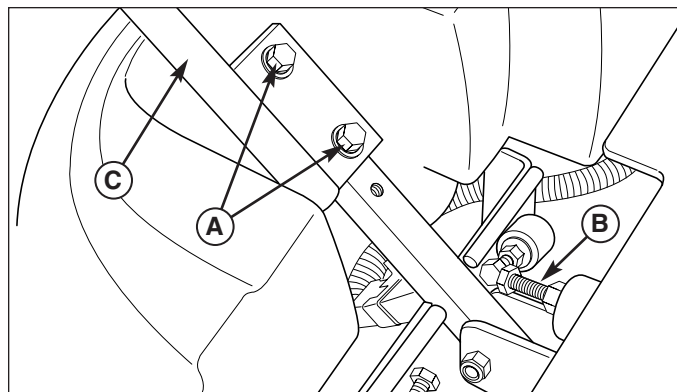

Figure 11. Control Lever Adjustment
To Adjust the Handle Alignment: Loosen the mount bolts (A, Figure 11) and pivot the lever(s) (C) to align with each other.
To Adjust the Handle Placement: Loosen the jam nuts and adjust the placement bolt (B, Figure 11) in or out to properly adjust the lever end spacing.